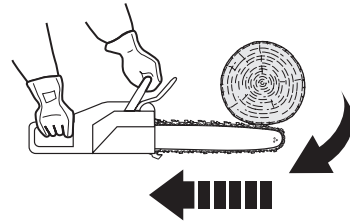

Fig. 25
2. Pinching the saw chain (8) along the top of the guide bar (9) may push the guide bar rapidly back toward the operator (Fig. 25).
5. Keep a good firm grip on the product with both hands, the right hand on the rear handle (1) and the left hand on the front handle (2), when the motor is running. Maintain a firm grip with your thumbs and fingers encircling the product handles (1, 2). A firm grip will help you reduce 'kickback' and maintain control of the product.